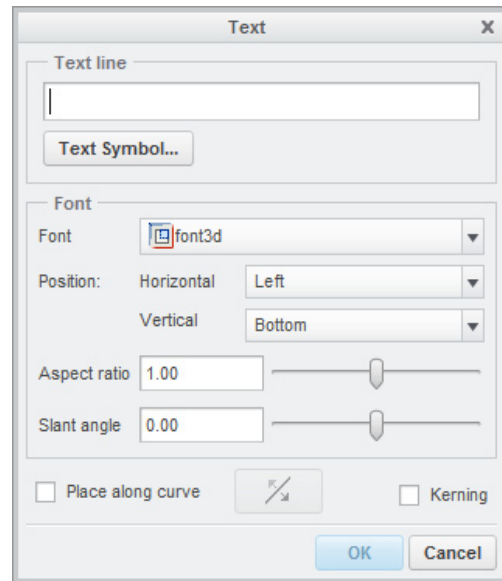

Figure 3-17 The **Text** dialog box
3. Note that to write the text upright, the second point should be above the start point and in a straight line. If the second point is below the start point, the text will be written down from right to left. Specify the second point on the screen by clicking the left mouse button; the **Text** dialog box will be displayed, as shown in Figure 3-17.